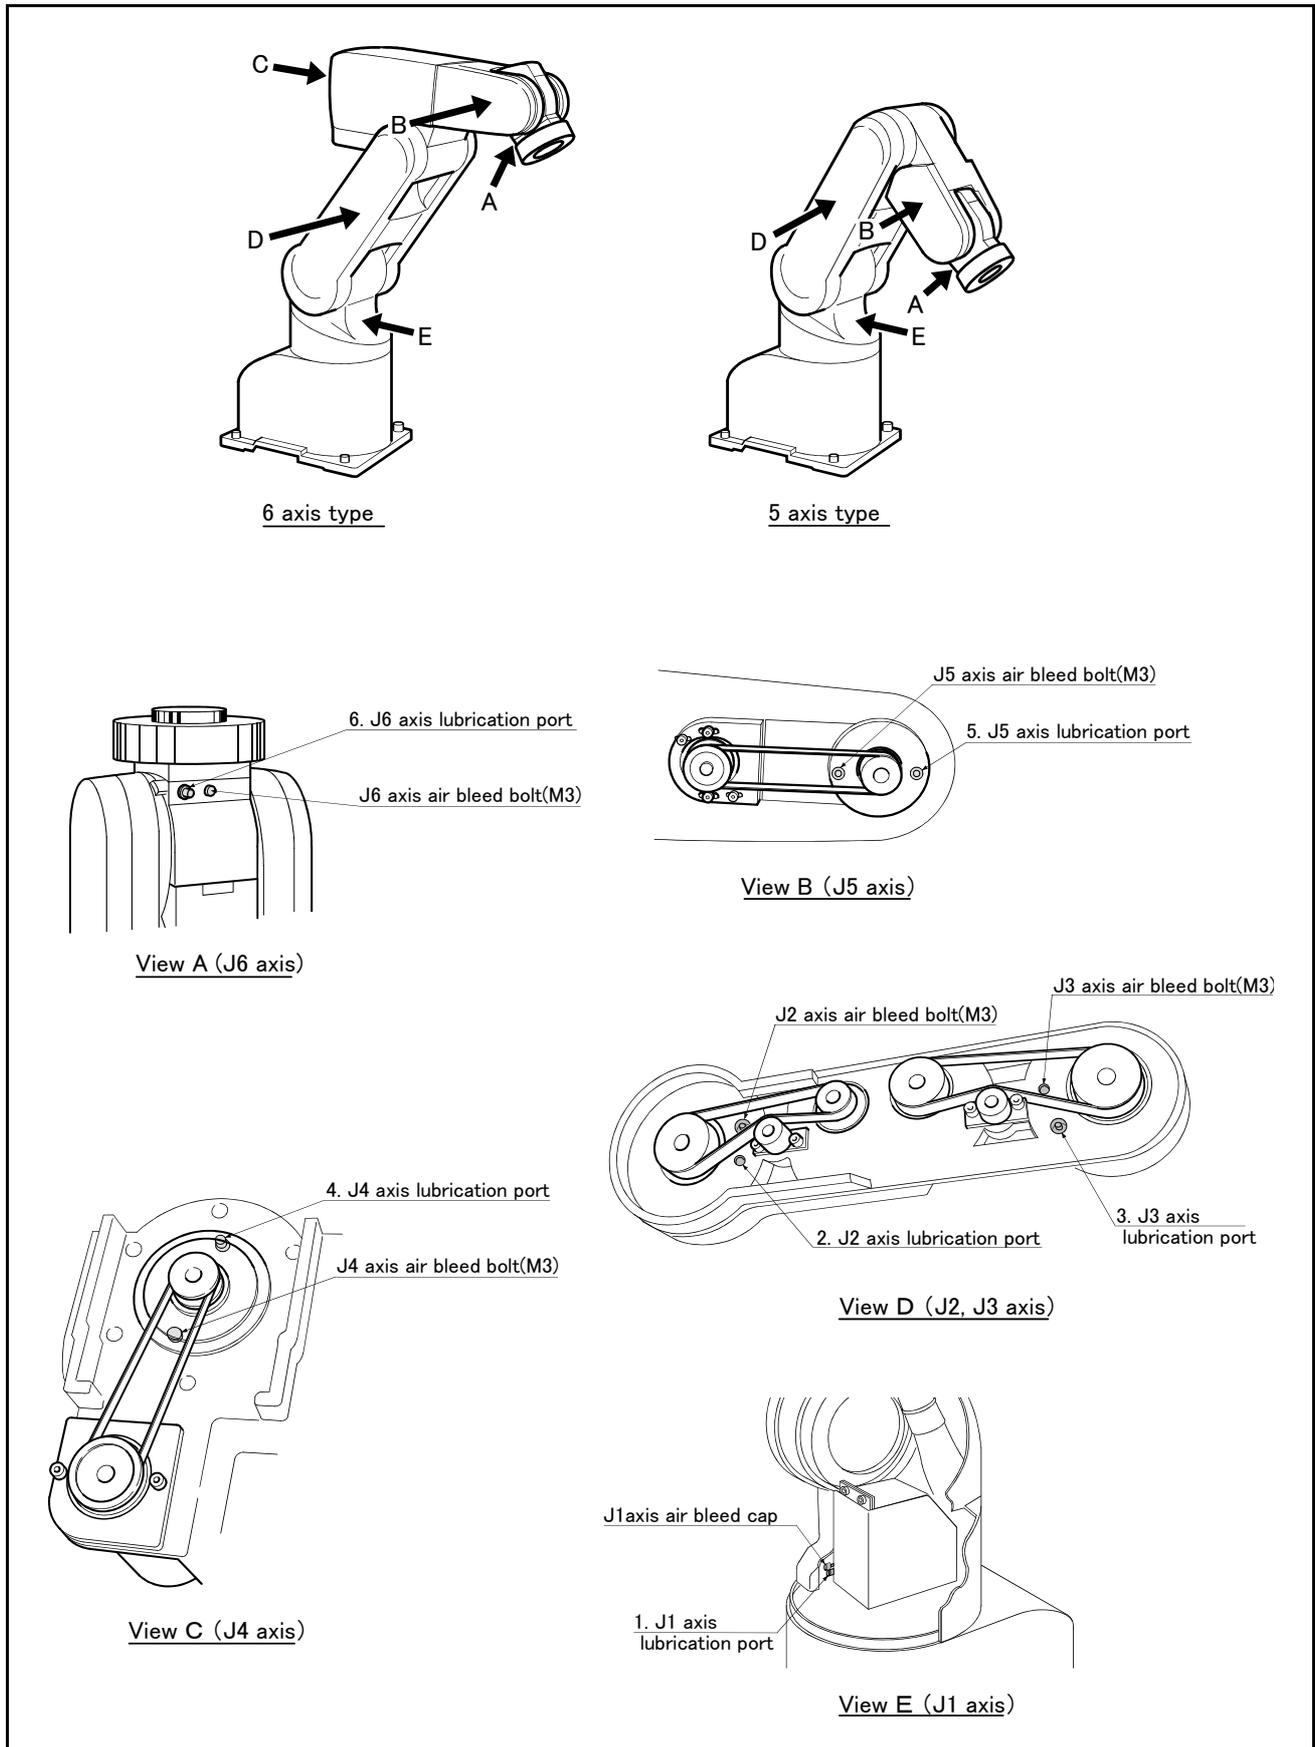

Fig.5-11 : Lubrication positions
The grease nipple position is shown in Fig. 5-11. The lubrication specifications for each place are shown in Table Fig. 5-6. Before lubricating, refer to “Fig. 5-4Installing/removing the cover (5-axis type)” on page 42 for the 5-axis type, and “Fig. 5-5Installing/removing the cover (6-axis type)” on page 42 for the 6-axis type, and remove the required covers.
- The numbers in the Table Table correspond to the supply positions in Fig. 5-11.
(2) Lubrication method